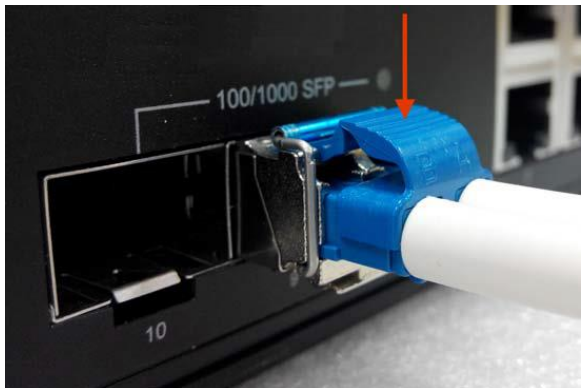

Figure 2.10 – Remove LC Connector
- **Step 1** - Press the upper side of the LC connector from the transceiver and pull it out to release as shown below in *Figure 2.10*.